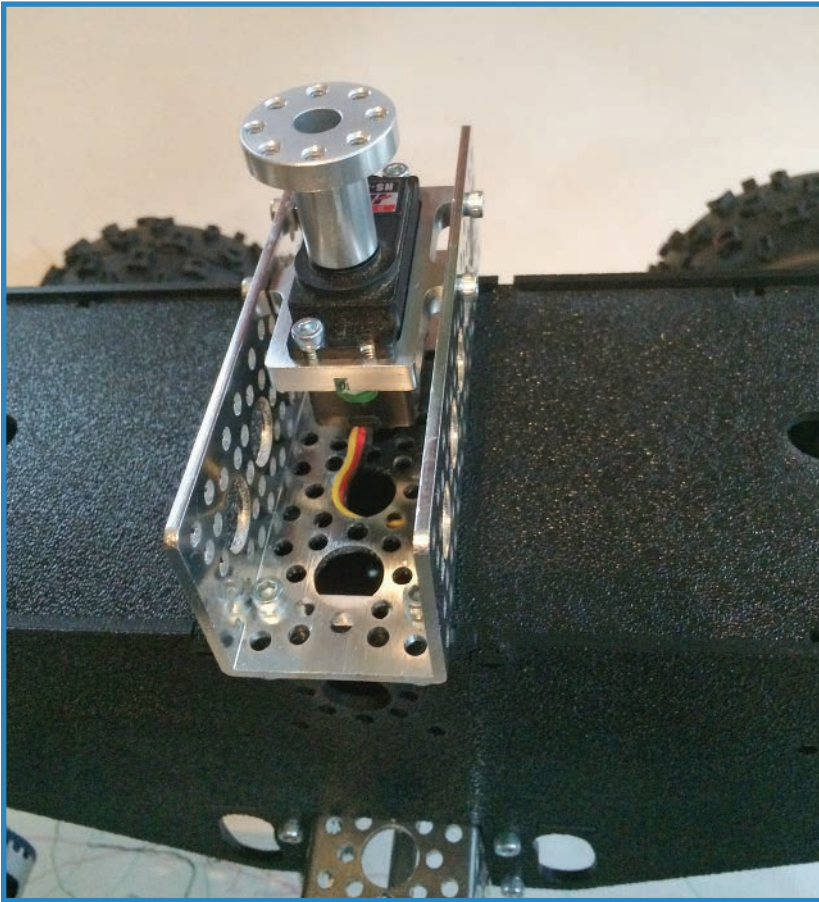

FIGURE 13.22 Install the servo hub.
13. Install the servo hub using the set screw that came with the servo (see Figure 13.22).